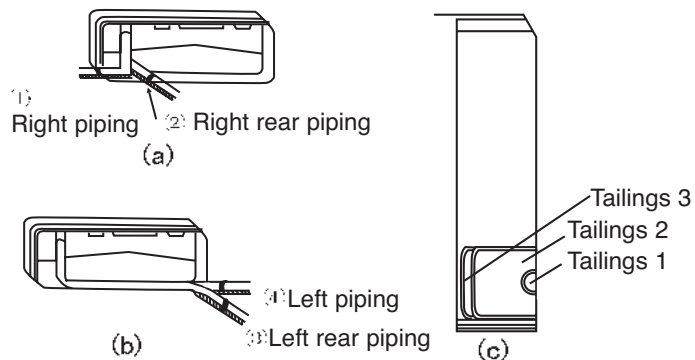

Fig.4
- When routing the piping and wiring from the left or right side of the indoor unit, cut off the tailings from the chassis in necessary (shown in Fig.4, (a), (b) (c)).
(1) Cut off the tailings 1 when routing the wiring only.
(2) Cut off the tailings 1 and tailings 2 (or tailings 1, tailings 2 and tailings 3) when routing both the wiring and piping. 1, 2 and 3 in Fig. 4 are the recommended piping.